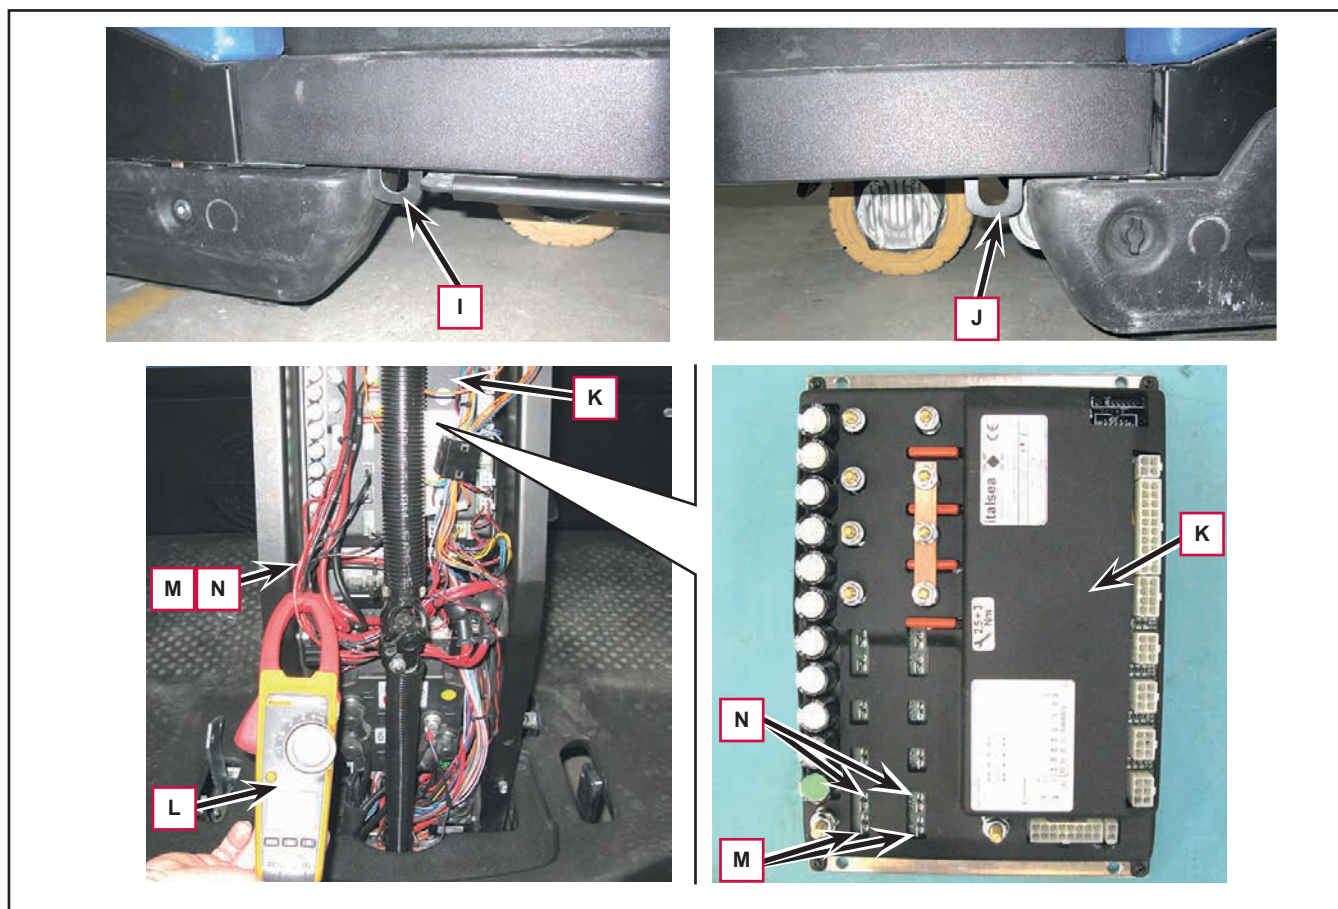

Figure 6
9. For safety purposes, to prevent accidental lowering of the machine, apply two suitable spacers under the right (I, Figure 6) and left (J) side brackets.
10. Working on the Main Machine Controller (K), apply the clamp ammeter (L) to an electrical cable (M) of the right side broom motor, or an electrical cable (N) of the left side broom motor.